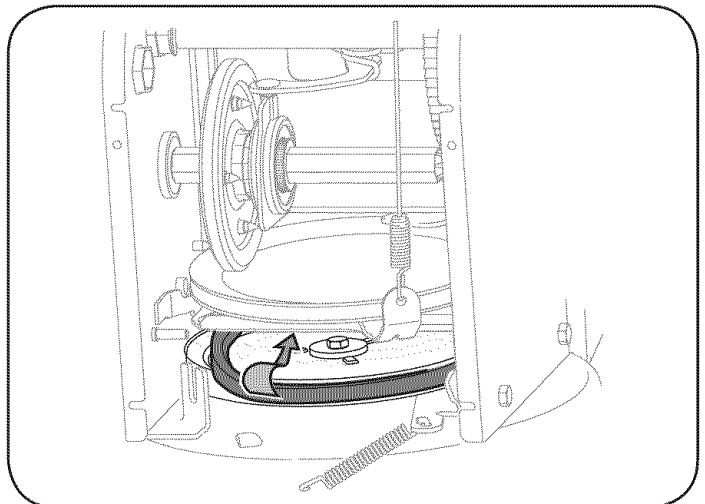

Figure 25
7. Remove the belt from around the auger pulley, and slip the belt between the support bracket and the auger pulley. See Figure 25.